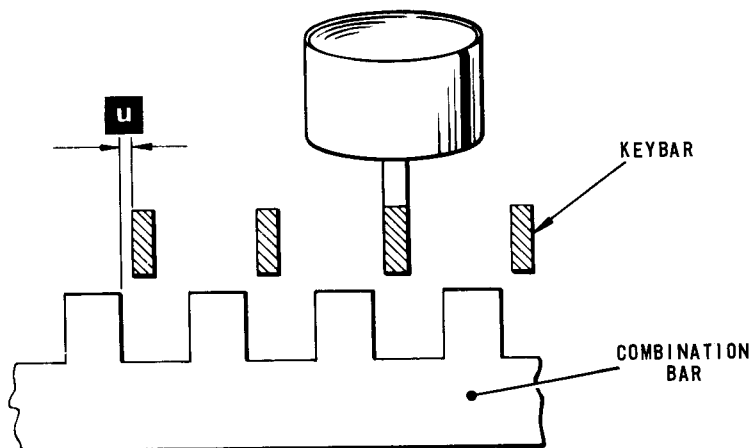

Fig. 4.14 KEYBAR/COMBINATION BAR CLEARANCE
- 20.1 With the keyboard in the reset condition, i.e. with the combination bars, Fig.4.14, latched back, check that there is a horizontal clearance of